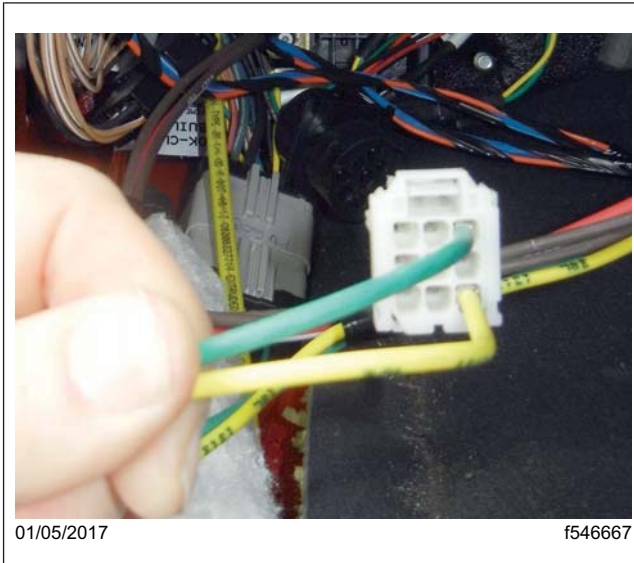
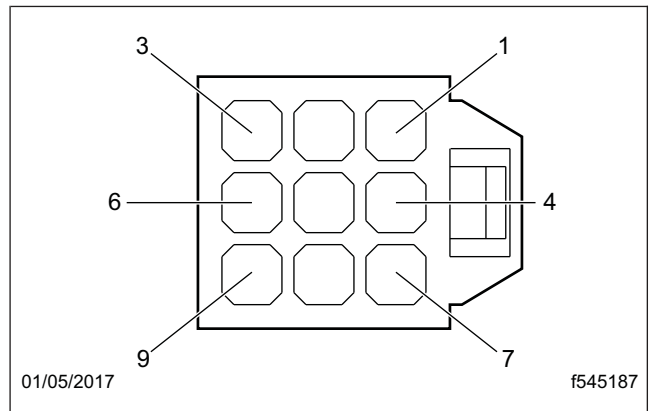

Fig. 6, Wires Inserted into Connector 53B
Fig. 7, 52B and 53B Pinout (view from insertion point)
8. Insert circuits 38R (dark green) and 38L (yellow) from harness A06-93000-000 into cavities 7 and 9 respectively in connector 53B (the part is supplied loose in kit 23-13149-902). See Fig. 6 and Fig. 7.
- 12. Remove the wire in cavity 6 of connector 52B. Fold the wire back against itself, and cover the terminal with heat shrink tubing. See Fig. 7.
- 14. Insert circuit 376C (orange) from harness A06-93209-000 into cavity 6 on connector 52B. See Fig. 7.